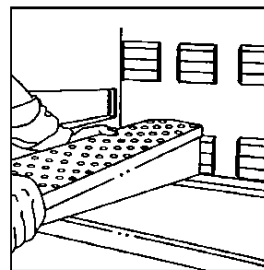

Figure 6
7. Install the finger in the oven by sliding it over the plenum flange and setting the front bracket. (See **Figures 6 and 7.**) BE SURE THAT THE FINGER SITS SQUARELY OVER THE PLENUM FLANGES AND THE HOLES POINT IN THE PROPER DIRECTION. Top fingers point down, bottom fingers point up. (See **Figure 8.**)
8. Repeat step 7 until all eight (8) fingers are installed.